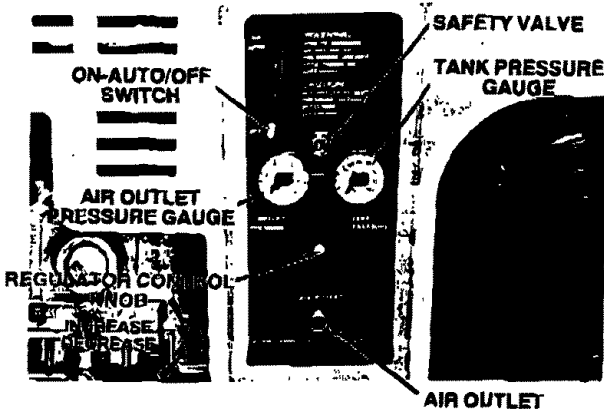

Figure 2
The control console (33) is located on the front of the unit. The air pressure coming from the air tank is controlled by the regulator knob (23). Turn the regulator knob clockwise to increase pressure and counterclockwise to decrease pressure. To avoid minor readjustment after making a change in pressure setting, always approach the desired pressure from a lower pressure. When reducing from a higher to a lower setting, first reduce to some pressure less than that desired, then bring up to the desired pressure. Depending on the air flow requirements of each particular accessory, the outlet regulated air pressure might have to be adjusted under flow conditions. Also on the console is the ON-AUTO/OFF switch, air outlet, safety valve and two pressure gauges. One gauge shows the air tank pressure and the other the outlet regulated pressure. Refer to Figure 2.